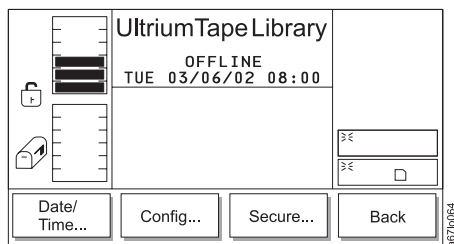

Figure 4-117. Utils Submenu
2. Press the button below the **Utils** softkey. The Utils Dialog displays (see Figure 4-117).